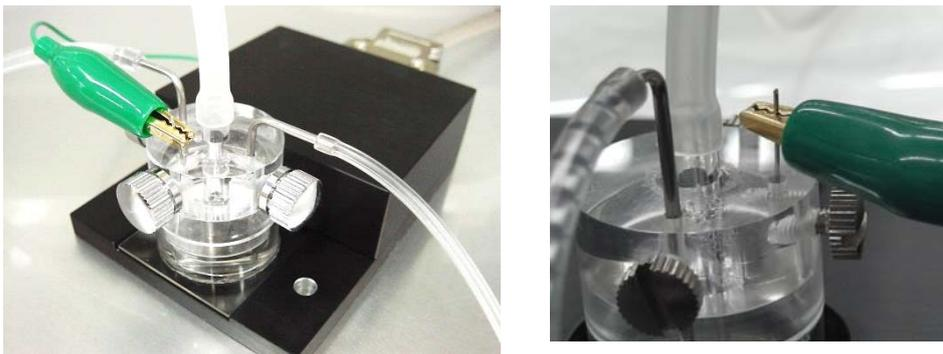

Figure 3-10. Grounding the ref. electrode (platinum wire).
4. Connect the green ground wires attached to the MED Mini Connector to the platinum wires (reference electrodes) for grounding. (Figure. 3-10)